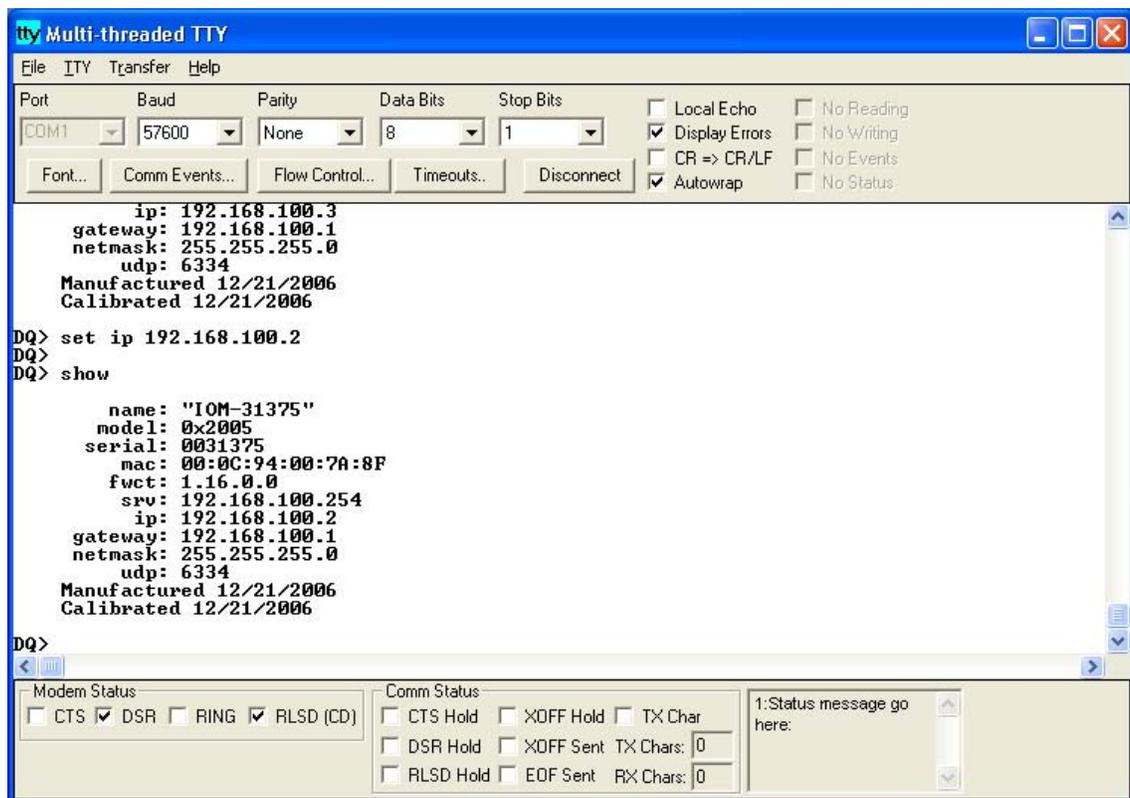

Figure 2-6 Changing IP Address with MTTY
- 2.3.1 Set IP Address** **Figure 2-6** shows a typical MTTY screen with commands for changing the IP address of the Cube.
- STEP 1:** As shown in **Figure 2-6**, enter the command “set ip *ip*, where *ip* is the desired IP address.